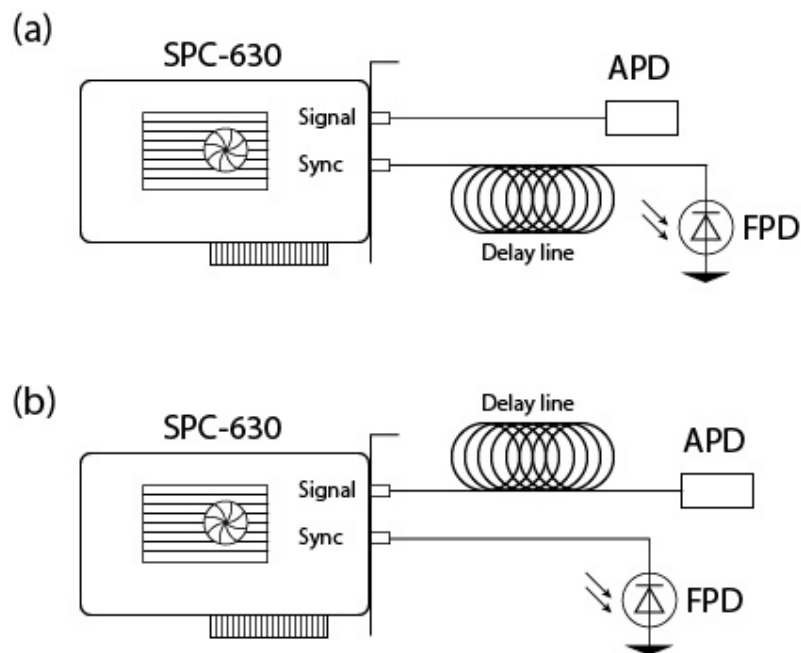

Figure 6. Configurations of TCSPC cabling: (a) “Reverse” and (b) “Direct” start-stop.
3. TCSPC measurements can be done in “reversed” and “standard” start-stop mode. The former mode has the maximum span of the transient of $\sim 25 \text{ ns}$, which can be adjusted continuously. In contrast, the latter mode can have time spans equal to 500 ns , $1 \mu\text{s}$, $2.5 \mu\text{s}$, and $5 \mu\text{s}$. Cabling configurations for these modes are shown in the Figure 6. Delay line – is about 30 feet long piece of RG-58 coaxial cable with BNC connectors. If it needs to be replaced any coaxial cable with 50 Ohm wave impedance will work. It has to be long enough to ensure about 25 ns delay of FPD signal relative to APD one.
1. Set the cabling according to the Figure 6(a) after verifying that the pulse picker is operating correctly. Start SPCM software on the PC. Details on the SPCM software can be found in the Photon Counting Handbook by Becker and Hickl.